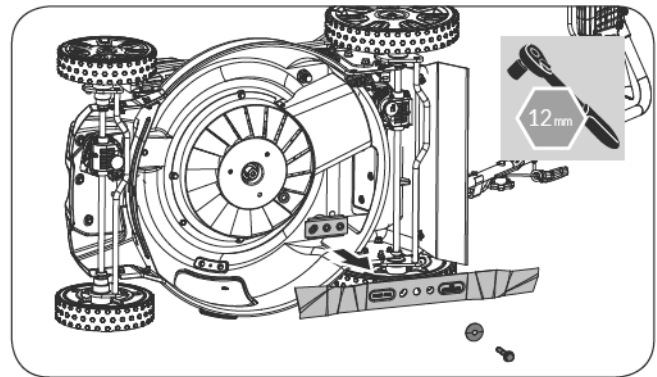

Figure 28
1. Remove the bolt, fix the blade and remove the blade. (See *Figure 28*)